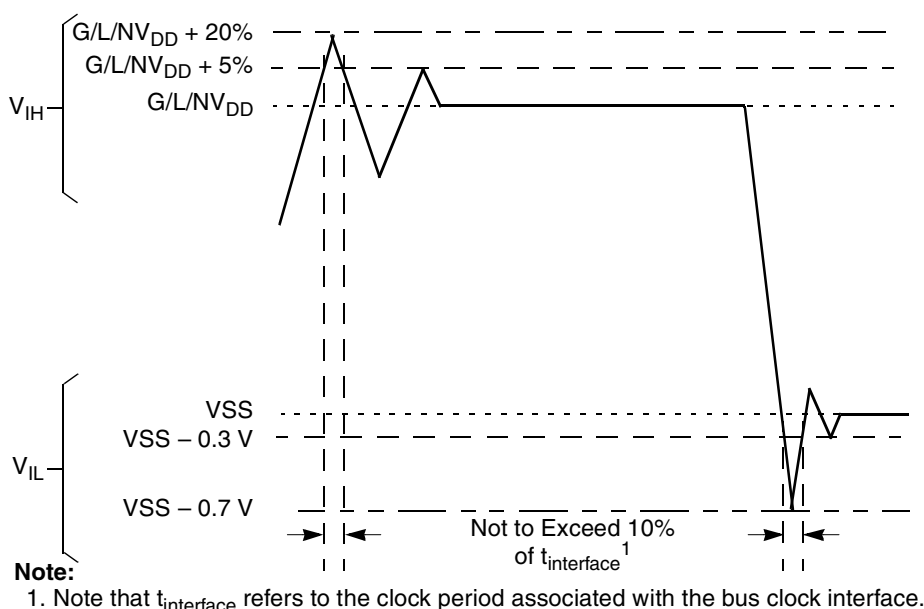

Figure 2. Overshoot/Undershoot Voltage for GVDD/NVDD/LVDD
- (M, L, O)V_{IN} and MV_{REF} may overshoot/undershoot to a voltage and for a maximum duration as shown in Figure 2
Figure 2 shows the overshoot and undershoot voltages at the interfaces of the device.